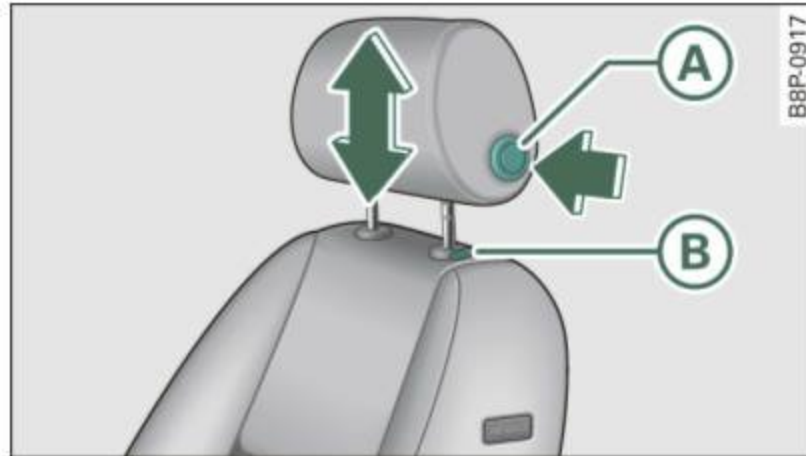

Fig. 97 Driver's seat head restraint: adjusting the height
- Lift the head restraint ⇒ *page 103*, fig. 97 until the top of the restraint is even with the top of your head ⇒ *page 155*
- With the other hand press the release knob (A) ⇒ *page 103*, fig. 97 and push the head restraint down. You should *not* lower the top of the restraint below the level of your eyes.
- Press the release button -arrow- ⇒ *page 103*, fig. 97 and pull the restraint straight up and out of the seat.